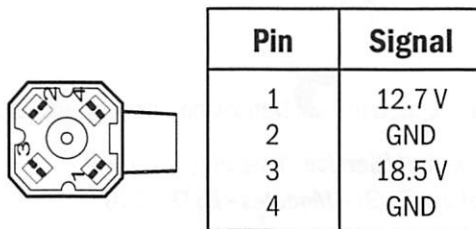

Figure 1 Power adapter's voltages
2. Connect the power cord to the power adapter and check the supply voltage from the power adapter's connector. PIN 1 voltage must be 12.7 V without load (Figure 1). If necessary adjust the 12.7 V with trimmer R23 (Figure 2).